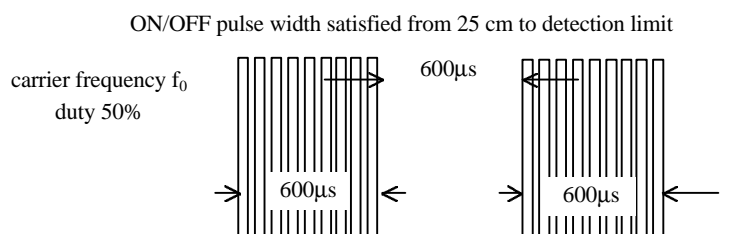

Fig 1. Burst Wave
- (1) Measuring place .....Indoor without extreme reflection of light.
- (2) Ambient light source .. Detecting surface illumination shall be 200±50Lux under ordinary hite fluorescense lamp of no high frequency lighting.
- (3) Standard transmitter ...Burst wave indicated in Fig 1. of standard transmitter shall be arranged to 50mVp-p under the measuring circuit specified in Fig 2.